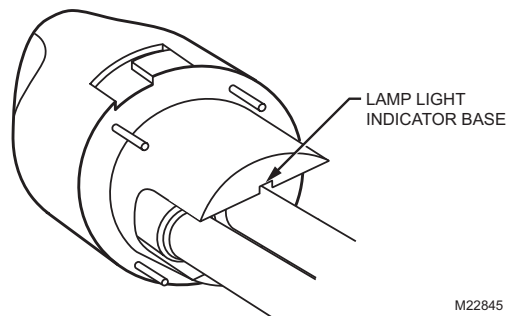

Fig. 12. Wipe lamp light indicator base.
5. Also wipe away any dust that may have collected between the lamp light indicator on the base and the black lamp base. See Fig. 12.